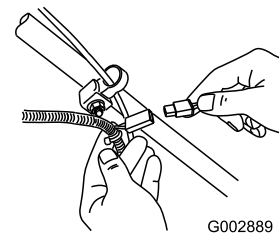

Figure 26
1. Connect the charger to the wire harness located below the ignition key (Figure 26).